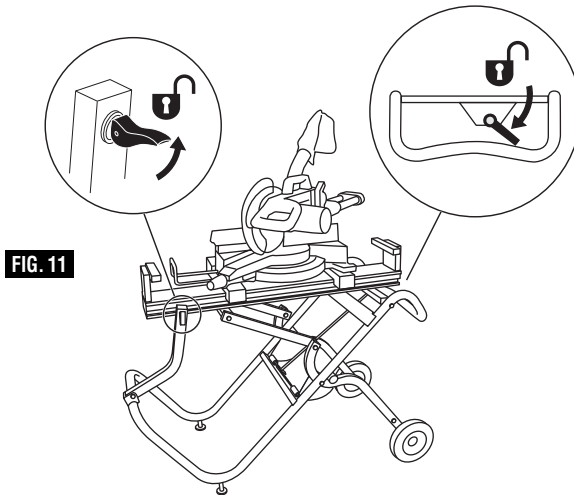

FIG. 11
1. Unlock support leg cam lock, figure 11.
2. Rotate release lever down to clear locking pins, figure 11.